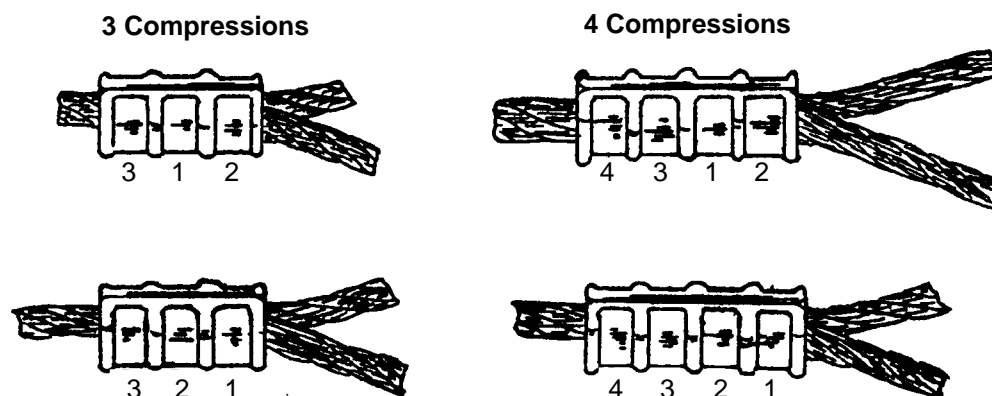
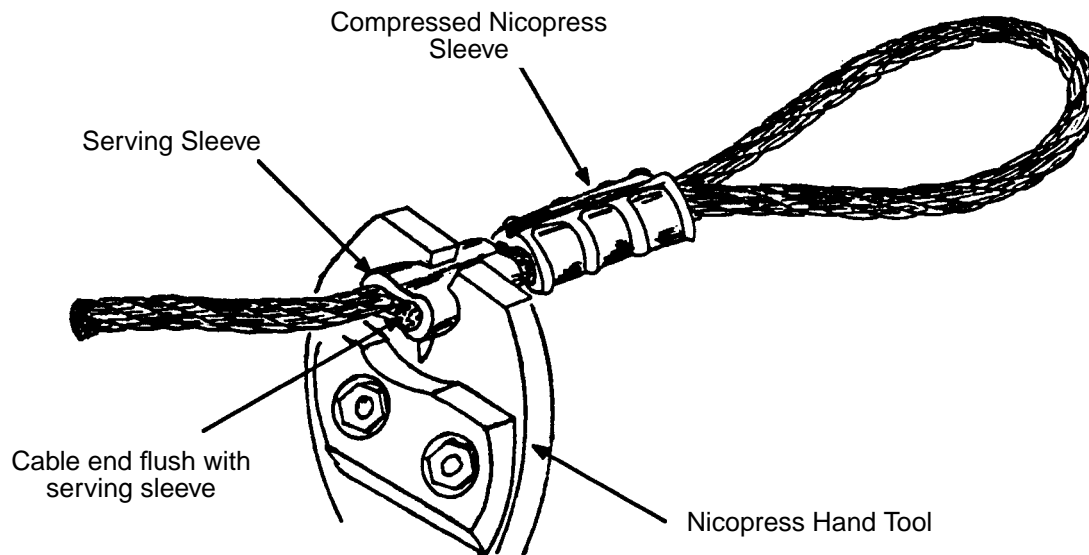

Figure 3 - Location and Sequence of Compressions
Figure 4 - Use of Nicopress
- Step 2. Beginning with the sleeve which is nearest to the terminal or splice, locate the sleeve in the crimping die in the approximate location that the first compression (see Figure 3) is to be made. If there is only one compression to be made, locate the tool centrally on the sleeve. Orient the hand tool so that the major axis of the sleeve is at right angles to the axis of the crimping tool (see Figure 4).
- Step 3. Compress the sleeve by closing the handles of the tool until the stops meet. Finish the sleeve compression in the sequence specified in Figure 3. Rotate the Nicopress sleeve 180° between compressions. Refer to Table 1 for the number of compressions for the different sleeve sizes.
- Step 4. Locate serving sleeves so that the sleeve end is flush with the free end of the cable and compress the sleeve (see Figure 4).